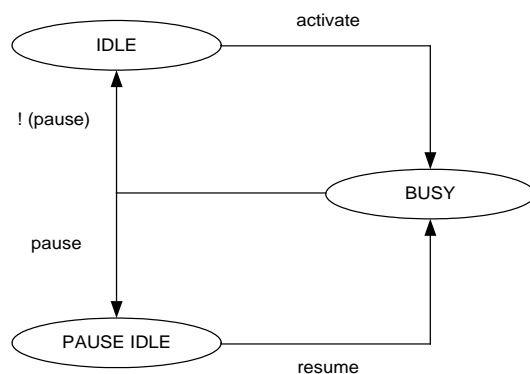

Figure 7-3. Operation flow with or without PAUSE mode
- Unlimited length for transmission, achieved by the operation of PAUSE mode. In PAUSE mode, the CS_N signal will keep being active (low) after the transmission. At this time, the SPI controller is in PAUSE_IDLE state, ready to receive the resume command. Figure 7-3 is the state transition.